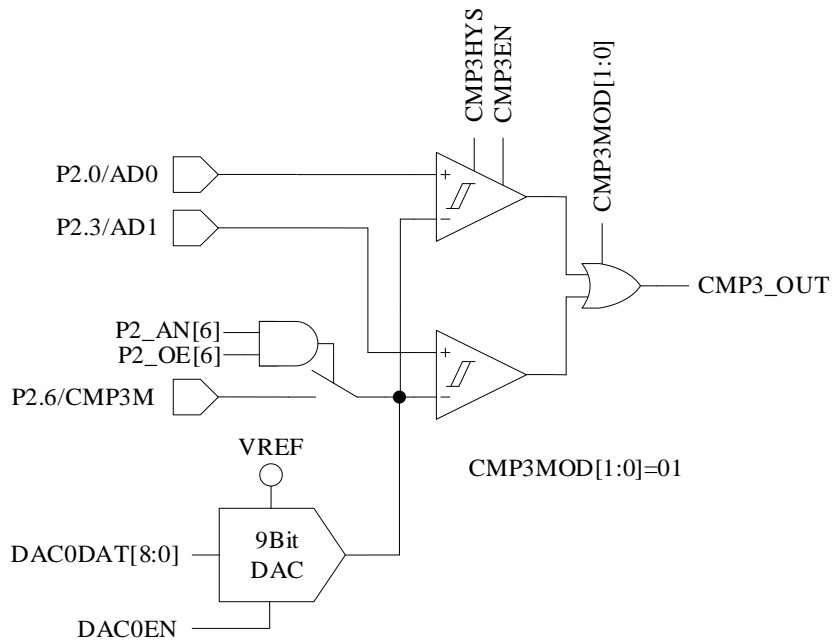

Figure 29-3 Dual-comparator Input Mode (CMP_CR1[CMP3MOD] = 01)
- When CMP_CR1[CMP3MOD] = 01, CMP3 works in dual-comparator input mode. The connection of input and output pins are shown in Figure 29-3.